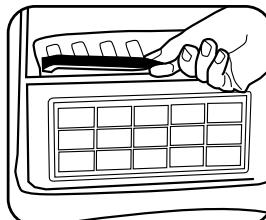

Fig. 5
1. To turn the vacuum on, push the switch located on the dust compartment to the ( 1 ) position (Fig. 5).
2. Remove the secondary filter, and replace it with a new filter (Fig. 5).